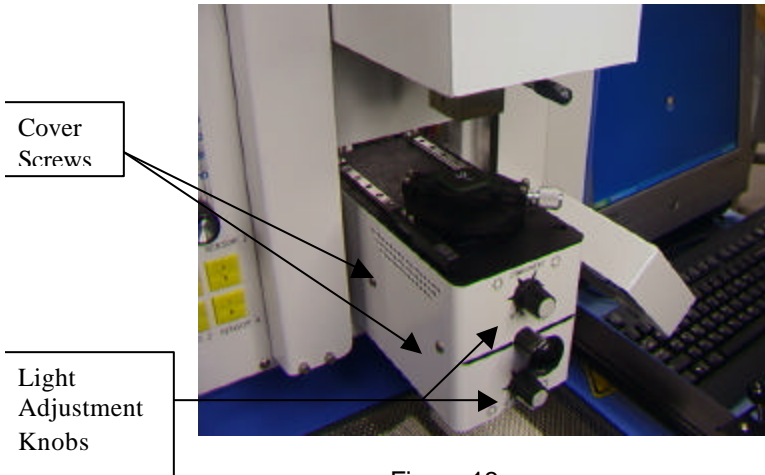

Figure 13
1. Loosen the setscrews from the light adjustment knobs (Figure 13)
3. Remove the four screws (2 on each side) from the cameras' sheet metal cover (Figure 13)
5. Loosening the top screws (A) and tightening the bottom screws (B) adjusts the prism down.
6. Loosening the bottom screws (B) and tightening the top screws (A) adjusts the prism up.